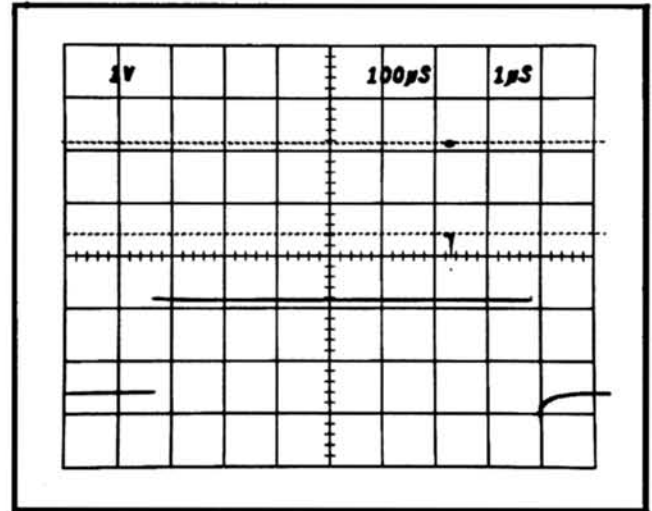

Fig. 2-13. Using delayed sweep for sweep magnification.
**Example:** The apparent magnification of the display shown in Fig. 2-13 with an A TIME/DIV setting of .1 ms and a B TIME/DIV setting of 1 µs is: